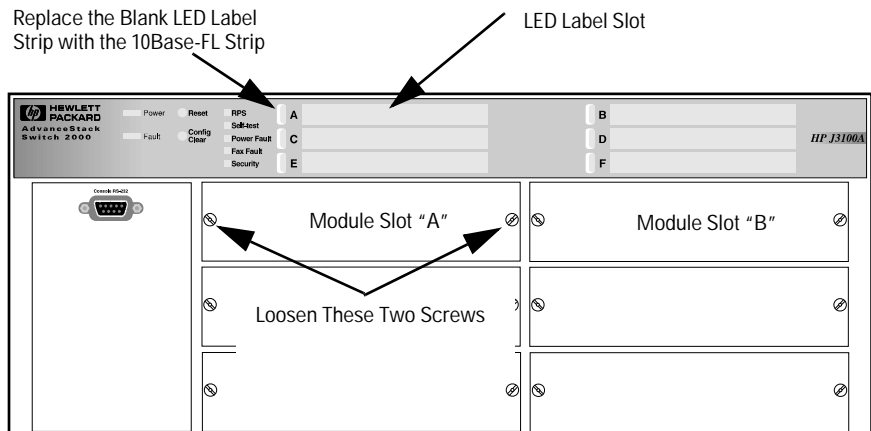

Figure 2. Remove the Cover Plate from an Unused Switch Port
1. Slide out the blank LED label strip from the label slot corresponding to the physical slot in which you will install the module. The LED label strips have a small loop on the left end. Use your fingernail or a small implement to catch the loop and slide the label to the left and out of the label slot. Then insert the LED label strip you received with the 10Base-FL Module. For example, if you are going to install the module in slot “A”, you would replace the blank LED label strip in label slot “A” with the new LED label strip for the 10Base-FL Module. (Refer to figure 2.)
2. Using a Torx T-10 or slotted screw driver, unscrew the screws in the cover plate over the slot you want to use, and remove the cover. Store the cover plate with its screws for possible future use. For example, to install a module in slot A, see figure 2.